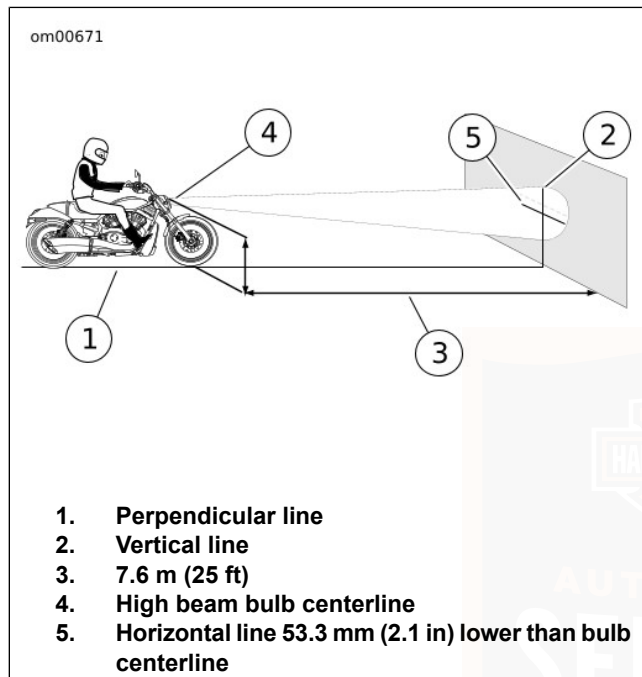

Figure 47. Headlamp Alignment
4. See Figure 47. Park the motorcycle on a perpendicular line (1) with the front axle 7.6 m (25 ft) (3) from a wall.
5. Draw a vertical line (2) on the wall.